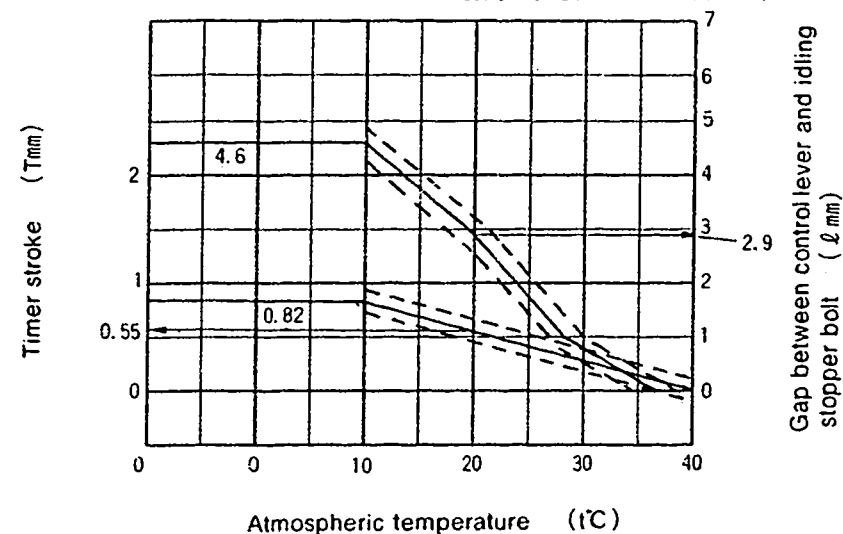

Fig. 2
1. Calculate the timer stroke from Fig. 2 according to the atmospheric temperature at the time of adjustment.
Formula for calculating Fig. 2
1. Calculate the block gauge dimension  $\ell \pm 0.05$  mm from Fig. 2 according to the atmospheric temperature at the time of adjustment.
2. Insert the block gauge (thickness gauge) selected in Step(1) above between the bracket and the idling stopper bolt.